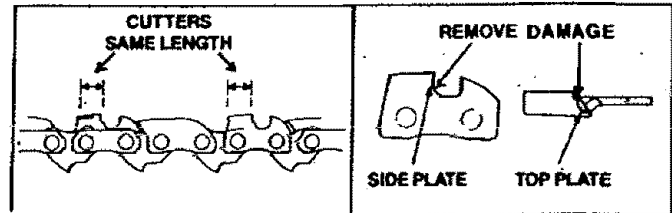

Figure 33
- d.) Keep all cutters the same length. Figure 33.
- e.) File enough to remove any damage to cutting edge (side & top plate) of cutter. Figure 33.